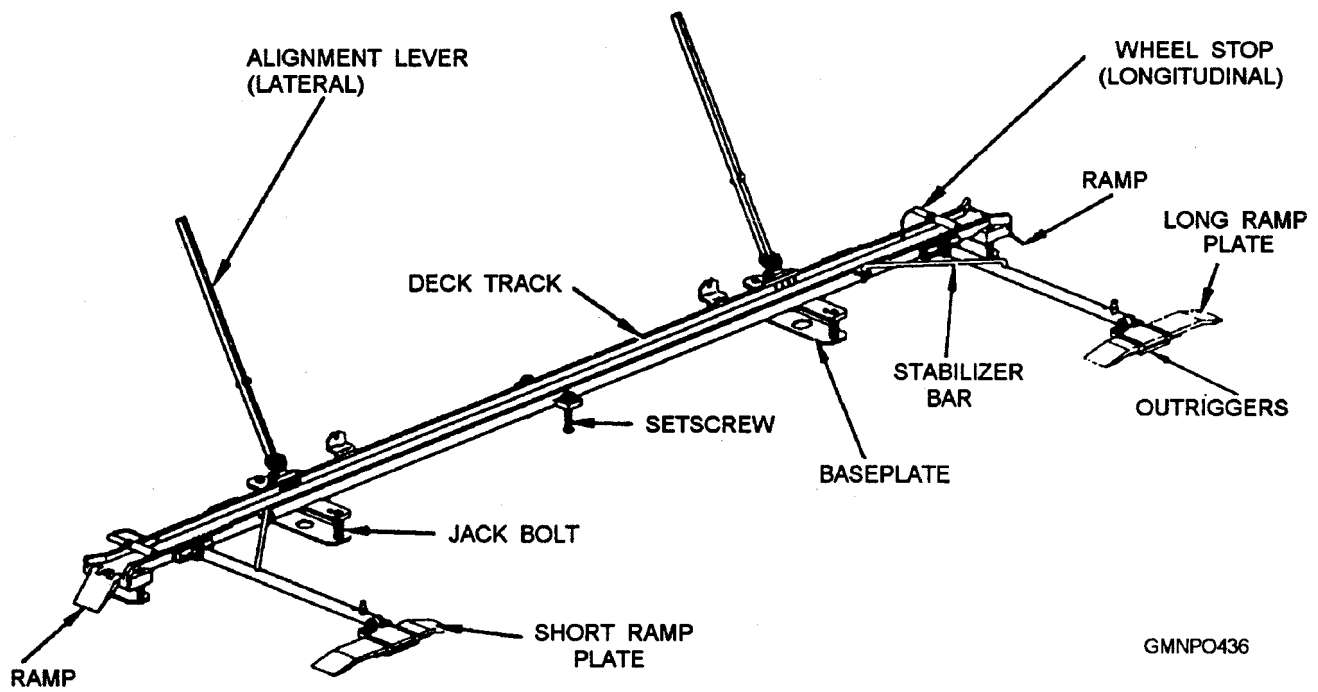

Figure 8-10.—AAW dolly deck track.
**AAW Dolly Deck Track.**— The AAW dolly deck track is shown in figure 8-10. It serves to guide and secure a transfer dolly over the in-deck receiver piston. When the dolly arrives on deck, it is pushed up the wheel ramps and guided along the long deck track channel. The dolly is locked in place by forward and aft wheel stops (pins).